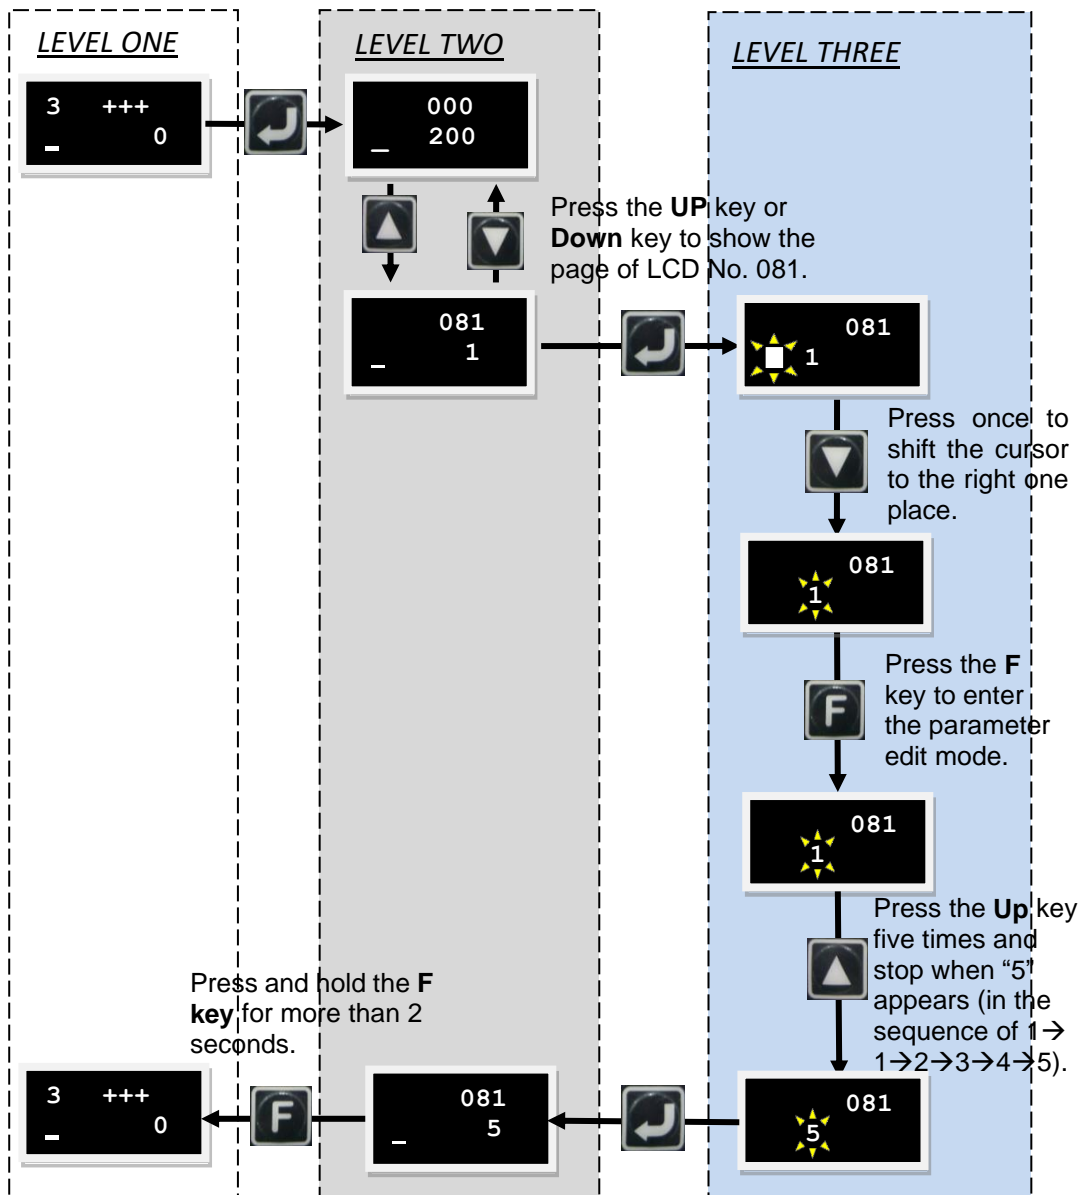

Figure7.5.3.1 Operation example of advanced parameter zone
- Step 3: After the parameter is edited, press the Enter key to complete the editing, return to the edited parameter, and display the edited parameter. To leave the advanced parameter zone, press and hold the F key for more than 2 seconds, as shown in figure 7.5.3.1.